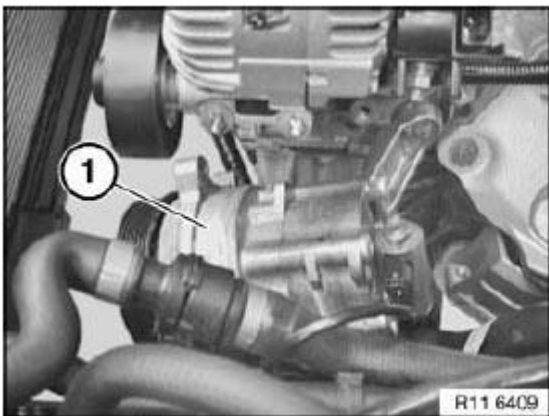

Fig. 8: Identifying Power Steering Pump
Release power steering pump (1) and set down on front axle carrier. See **Fig. 8**.